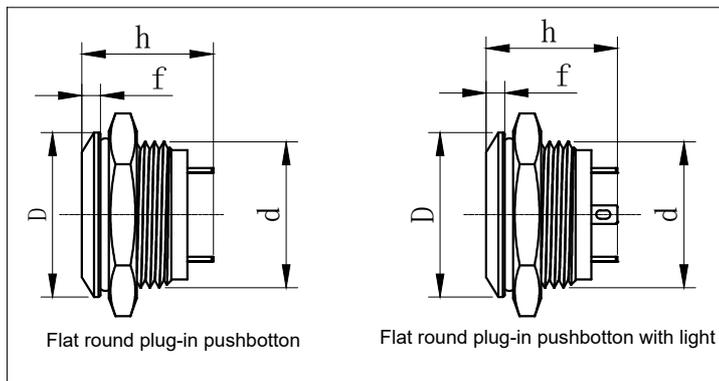

Figure 2: Outline dimension of product
4.4 Outlines dimensions as shown in Figure 2 (Unit :mm)